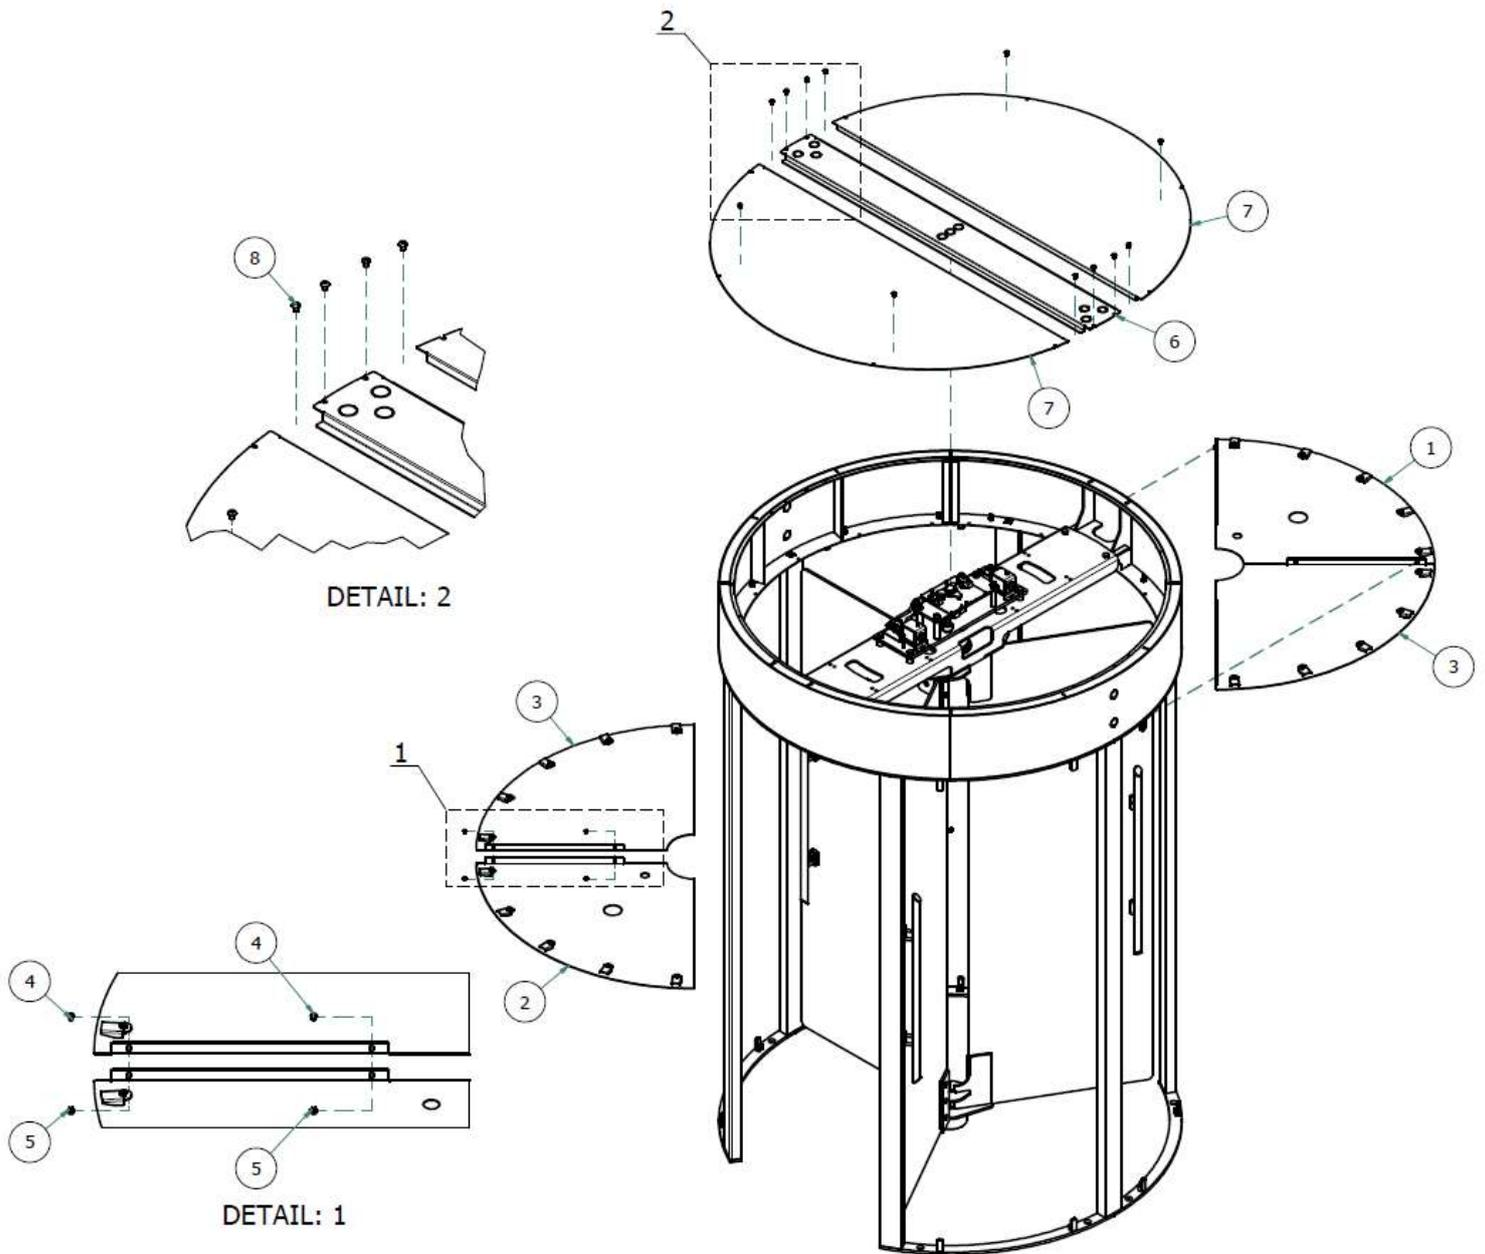

Figure 19: STEP 8 - Ceiling and roof assembly
- 5.27. The ceiling plates are installed by sliding the centre part with the half round cut between the drive channel bottom plate and the flange retainer. Then locked on the far curve with the locking tabs. See *Figure 19*.
- 5.30. The roof is installed by placing and bolting the top hat first. Then the two top covers on the side. Bolt these in place as shown. See *Figure 19*.